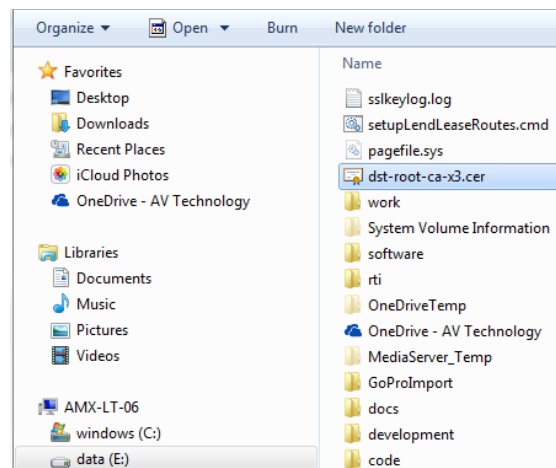

FIG. 472 Saved Certificate (.cer) File
13. The exported certificate file will now be saved in the folder of your choosing (FIG. 472):